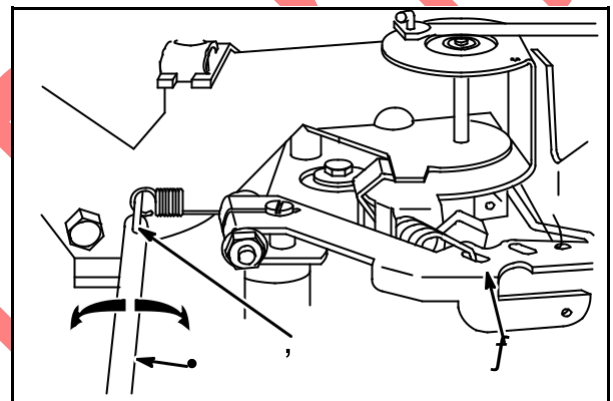

Fig. 35
Governor spring is installed in #1 hole in governor lever (3), **Fig. 35**.